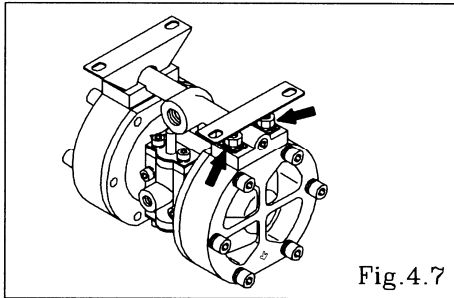

Fig.4.7
- Turn over the main body assembly. [Fig.4.7]
- Remove the 4 retainer nuts from the in manifold, and remove the in manifold. [Fig.4.7]